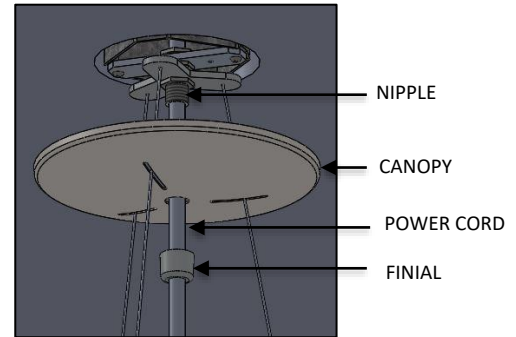

FIG. 14 – CORD INSTALLATION
8. Feed POWER CORD through the center hole IN THE CANOPY and make secure connection by passing through the NIPPLE (available in mounting bracket assembly) as shown below in FIG. 14.